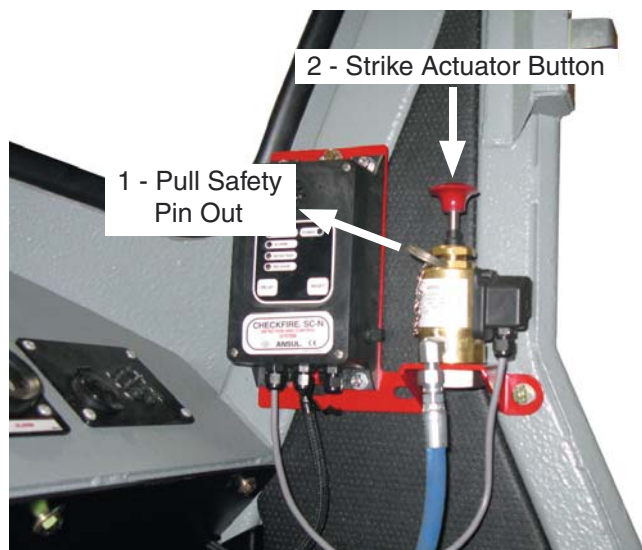
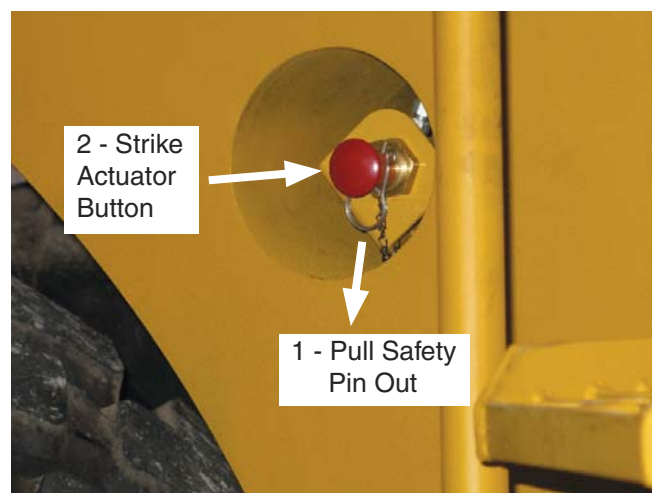

Figure 4-15-1 Cab Fire Suppression System Actuator (L90C Shown)
Figure 4-15-2 Exterior Fire Suppression System Actuator (L90C Shown)
1. Pull the safety pin on the actuator and strike the button. See Figure 4-15-1, in-cab; and Figure 4-15-2, exterior. Fire retardant will be released, the engine will shut down, and the batteries will be disconnected from the electrical system.